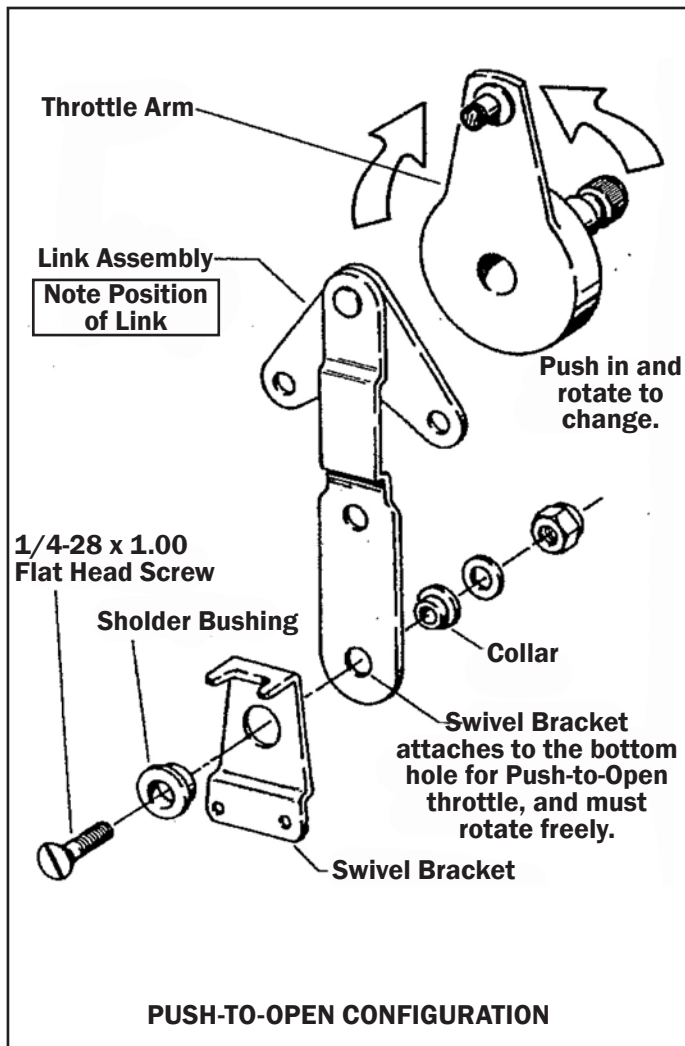

Figure 4.
The Throttle lever may be factory-set for “push” to open throttle. Refer to Figure 4. If you find it necessary to change to “pull” to open throttle, proceed as follows:
**STEP 4.** Remove the two (2) hex head screws, at the Link Assembly, and remove the Link. Make sure the Shift Arm does not change notch positions.
**STEP 7.** Attach the Swivel Bracket in the proper hole. See Figures 4 and 5 for proper location.